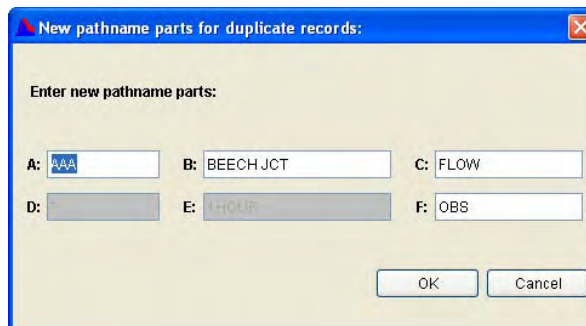

Figure E.18 HEC-DSSVue New Pathname Parts for Duplicate Records Dialog Box
1. Select the record(s) either by double-clicking on it or by highlighting it then clicking the **Select** button. From the **Utilities** menu, select **Duplicate Records**. The **New pathname parts for duplicate records** dialog box (Figure E.18) will open.